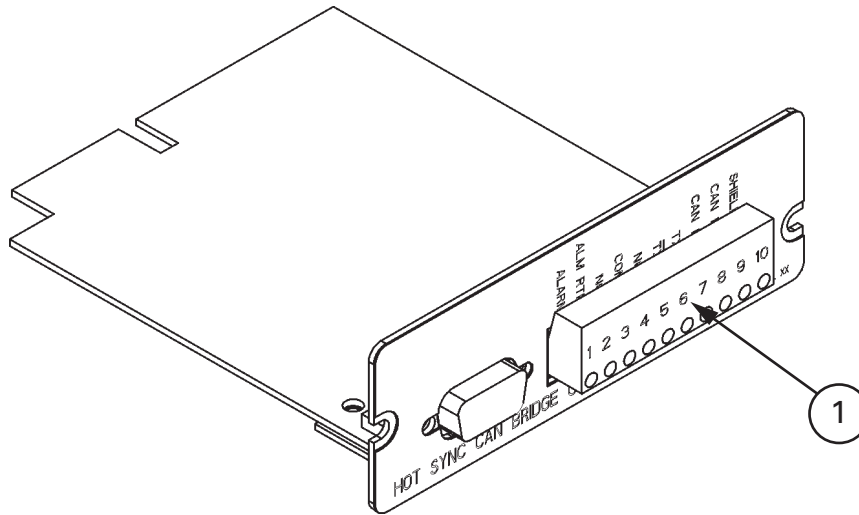
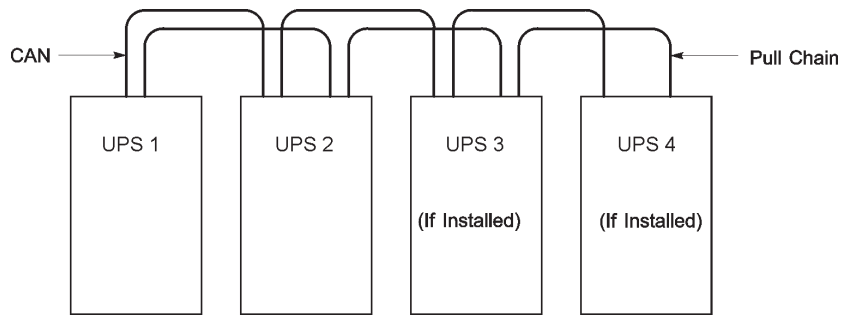
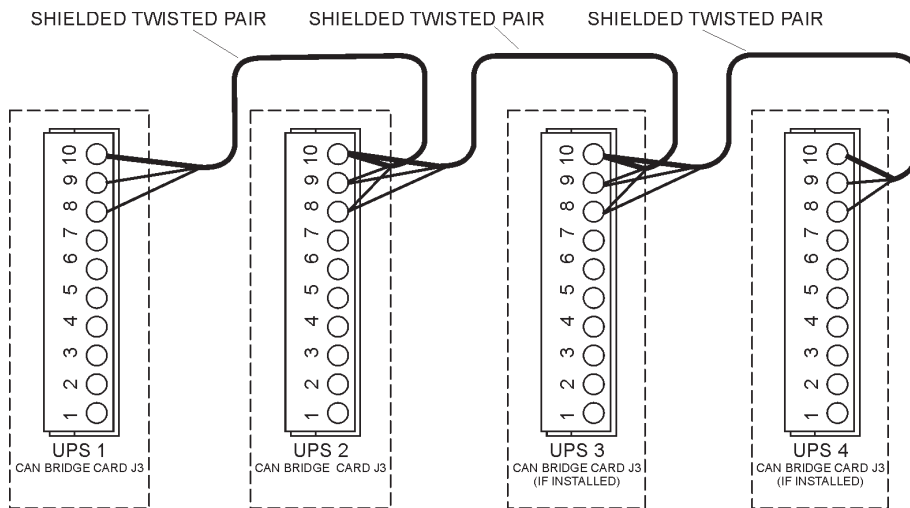

Figure 5-1. HotSync CAN Bridge Card
Figure 5-3. Distributed bypass system CAN and Pull-Chain simplified interface wiring
Figure 5-4. Distributed bypass system UPS CAN wiring without MOBs
As an option, a HotSync Controller Area Network (CAN Bridge Card, shown in Figure 5-1, can be installed to provide connectivity for operational mode control of a parallel system. In addition, this card can be used to connect optional system monitoring devices, such as a Remote Monitor Panel II, a Relay Interface Module II, or a Supervisory Contact Module II, to the UPS.
7. Route and install CAN wiring between the UPS cabinets. See Figure 5-1 and Table 5-1 on page 65 for the HotSync CAN Bridge Card terminal location and Figure 5-3, Figure 5-4, and Table 5-2 on page 68 for wiring information.
9. Route and install distributed bypass system pull-chain wiring between the UPS cabinets. See Figure 5-3 and Table 5-3 on page 68 for wiring information.
11. Route and install distributed bypass system pull-chain wiring between the UPS cabinets and tie cabinet MOBs. See Figure 5-4 on page 67 and Table 5-4 on page 69 for wiring information.